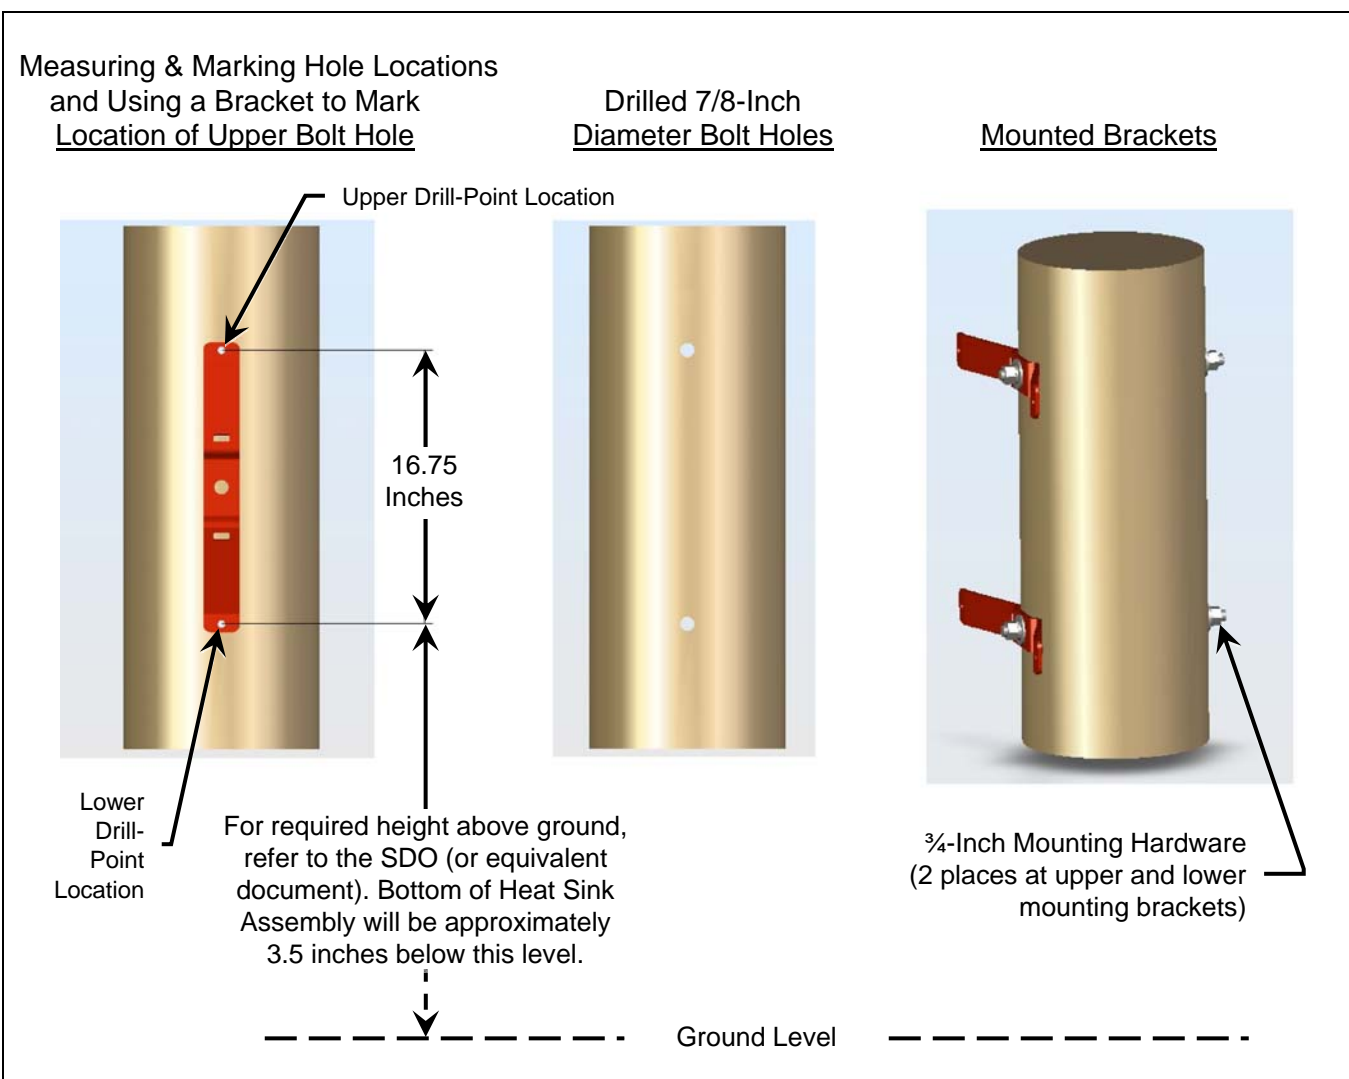

Figure 6-1: Attaching the Mounting Brackets to a 12-Inch Wooden Pole
1. Consult the SDO for the required height above ground specification, and any other mounting-related instructions/requirements. Most installations require the bottom of the base station cabinet at a distance of at least eight (8) feet from the surface of the ground.
2. On the base station cabinet-side of the pole, mark a drill-point location for the lower mounting bracket's bolt hole. The bottom of the cabinet will be at approximately this same level above ground. However, the bottom edge of the Heat Sink Assembly will be approximately 3.5 inches lower than this point after it is attached to the brackets. See Figure 6-1.
illustrated in Figure 6-1, the two end holes in one of the brackets may be used as a measuring tool, as these holes are exactly 16- $\frac{3}{4}$ inches apart.
5. Attach the two (2) mounting brackets to the pole using the $\frac{3}{4}$ -inch hardware included in Pole-Mount Installation Kit MACS-NMA6D (for wooden poles). See Figure 6-1 and refer to Table 6-1 for kit contents. **Do not torque this hardware until after the Heat Sink Assembly has been attached to the brackets (as described in a later section).**
3. Using a bubble or a laser-type level for an accurate vertical reference line, mark a location for the upper mounting bracket exactly 16- $\frac{3}{4}$ inches above the mark for the lower bracket. As illustrated in Figure 6-1, the two end holes in one of the brackets may be used as a measuring tool, as these holes are exactly 16- $\frac{3}{4}$ inches apart.
4. Using the two (2) stainless-steel straps included in Pole-Mount Installation Kit MACS-NMA6E (for metal poles), attach the two brackets to the pole. Refer to Table 6-2 for kit contents. Tighten the straps in accordance with the installations instructions included with the straps.